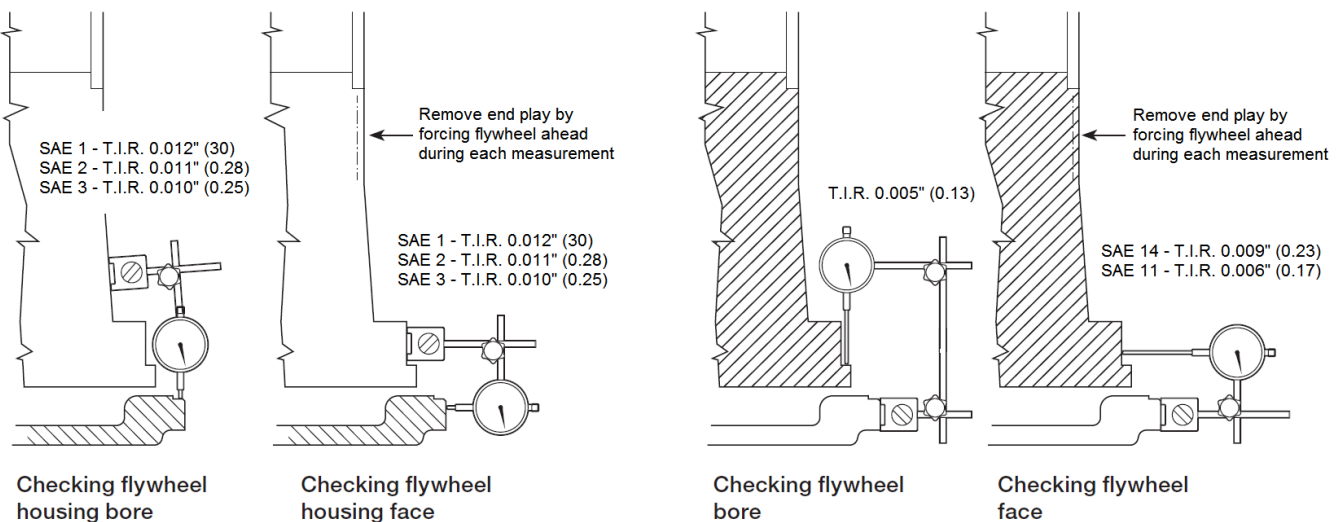

Figure 1: Checking that the flywheel runout is within SAE tolerances.
3.1.1 Check that the flywheel is within SAE tolerances (see Figure 1).